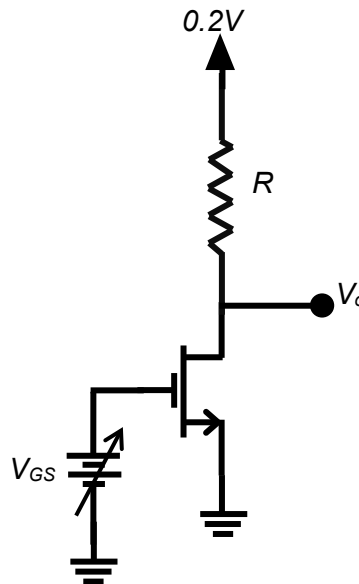

Figure 2. NMOS as a variable resistance in a voltage divider circuit.
- (a) For the voltage divider circuit shown in Figure 2, the transistor is acting as a variable load resistance in the deep triode region. Based on the parameter values that you have obtained for the ZVN2110A NMOS transistor in part I, design the circuit by choosing R such that V_o will change from 0.1 V to 0.02 V such that $V_{GS} \leq 5V$. Then calculate V_{GS} and r_{DS} that would lead to $V_o = 0.1V$ and 0.02 V.
1. Construct the circuit of Figure 2 using the same ZVN2110A NMOS transistor that was characterized in Part I and using your designed value for R .